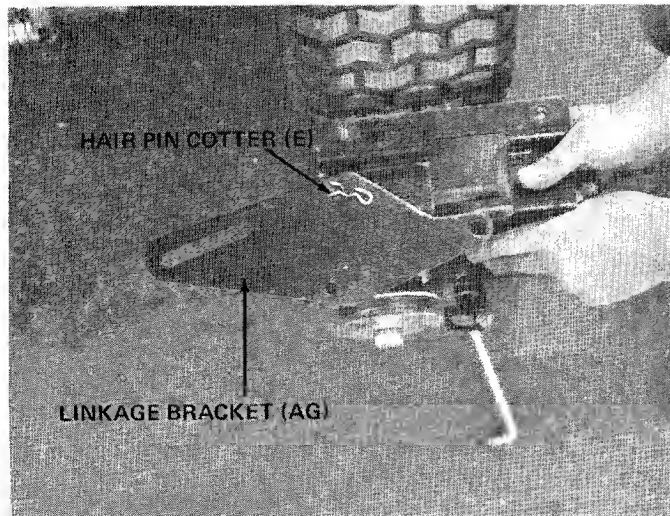

FIGURE 14
- ← 12. Pre-assemble the linkage bracket (AG) to the idler assembly (AJ), as shown in figure 14. Secure with hair pin cotter (E). **NOTE:** Slot in linkage bracket goes to the rear.